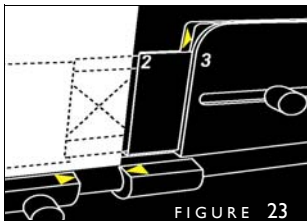

FIGURE 23
5. Bring the lever upright to unclamp your cover. Lean over the top of the Centering Guide to see the yellow arrows on the back side of the Book Thickness Rings. Slide your cover over so its right edge lines up with **the point** of the right arrow (Figure 23). Push the Lever to the left to score — you have just made your rear spine edge score.